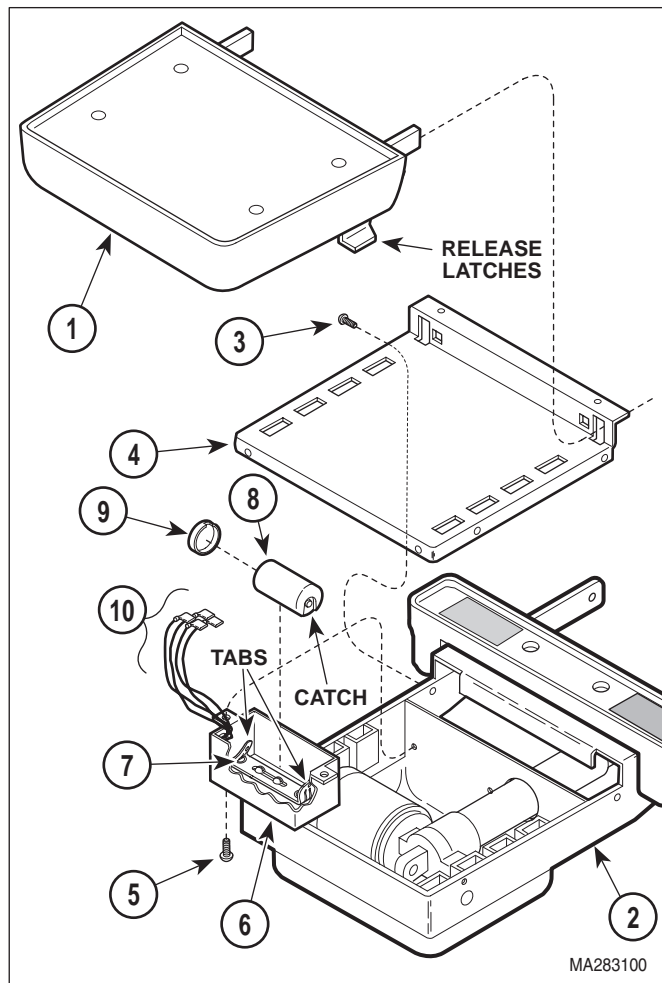

Figure 4-13. Foot Capacitor Removal / Installation
- (1) Unplug table power cord from wall outlet.
- (2) Squeeze release latches and remove foot board assembly (1, Figure 4-13) from foot extension weldment (2).
- (3) Remove four screws (3) and front trim (4) from foot extension weldment (2).